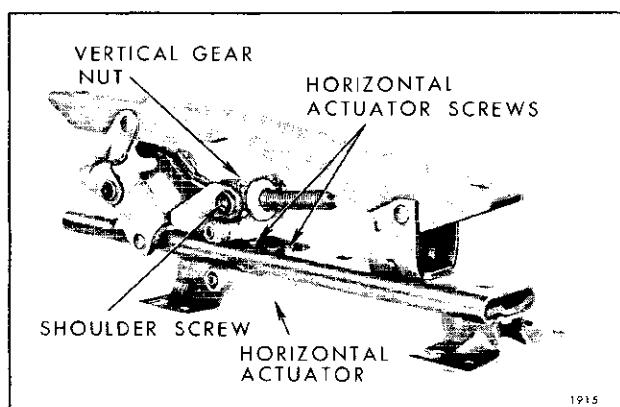

Fig. 15-8—Four-Way Seat Adjuster — "A" Styles
4. Using a clutch type screwdriver or other suitable tool, remove shoulder screws securing linkage to vertical gearnut being replaced (Fig. 15-8).
3. Remove screws securing horizontal actuator assembly to adjuster lower track; then remove actuator from adjuster assembly (Fig. 15-8).